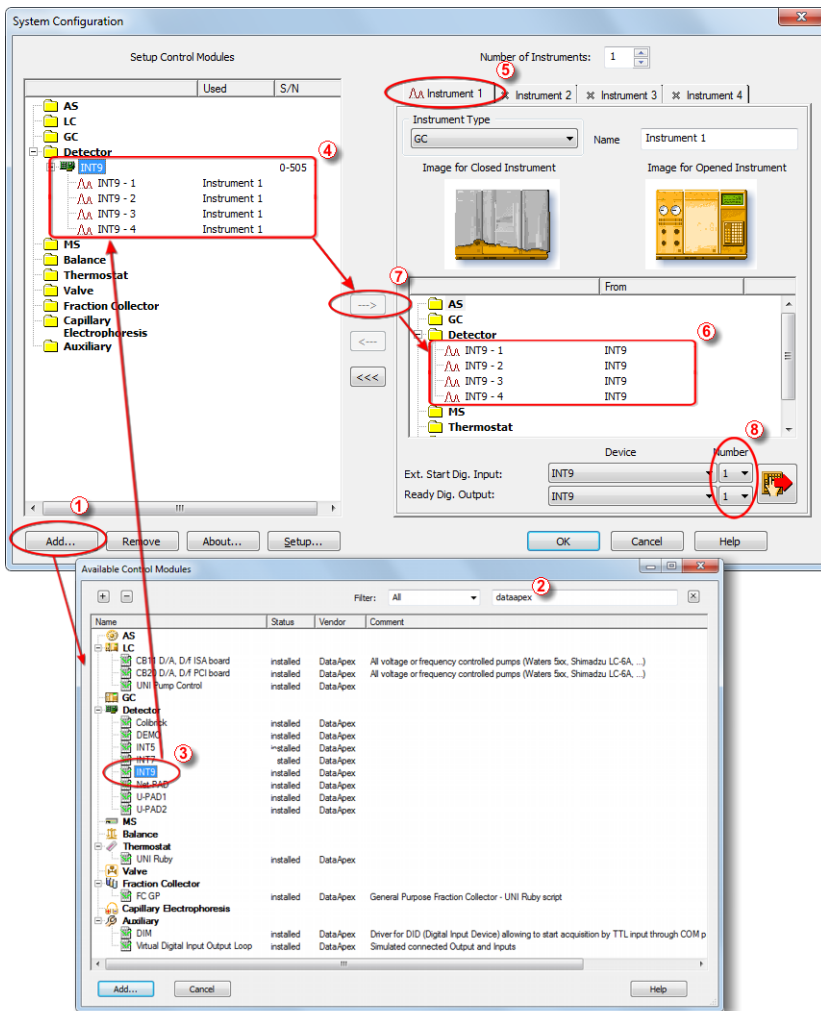

Fig. 4: System Configuration
- Press the **Add...** button 1 (See **Fig. 4** on pg. 8.) to invoke the **Available**
Note: The input used for an external start from a chromatograph can be set in the *System Configuration* dialog, see **Fig. 4** on pg. 8.